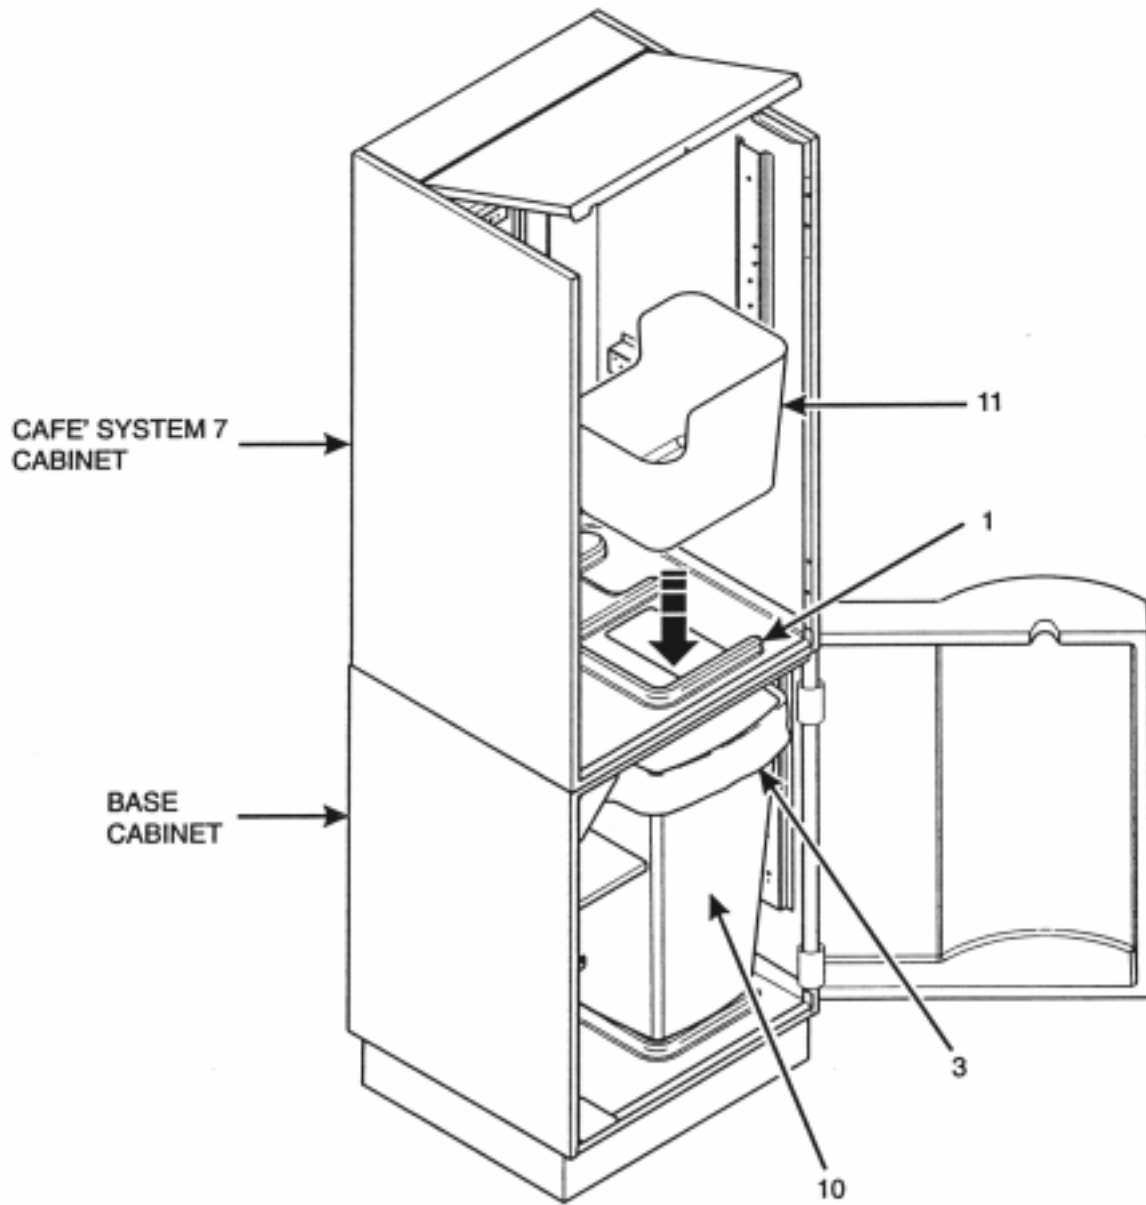

Figure 6
8. Place a waste bucket liner bag (3) inside the waste bucket (10) (figure 6).
9. Place the waste bucket (10) inside the base cabinet.
10. Place the cutout grounds bucket (11) into the floor liner of the Cafe' System 7 as shown (figure 6).
11. When you install the filter paper in the Cafe' System 7, start it through the cutout grounds bucket (11).